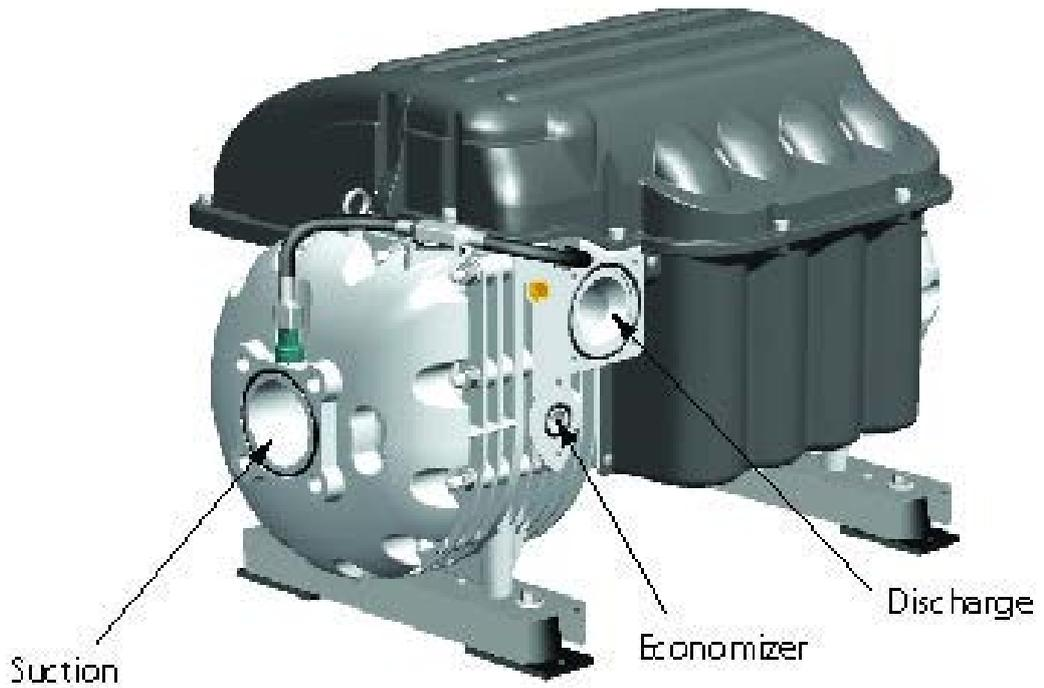

Figure 1
7. Assemble the four (4) sets of new screws and lock washers.
8. Align the suction valve/flange with the compressor suction port (see Figure 1) and insert the four (4) screws. Finger-tighten the screws and then torque, in a diagonal pattern, to 30 Nm (22.1 ft.lb.).